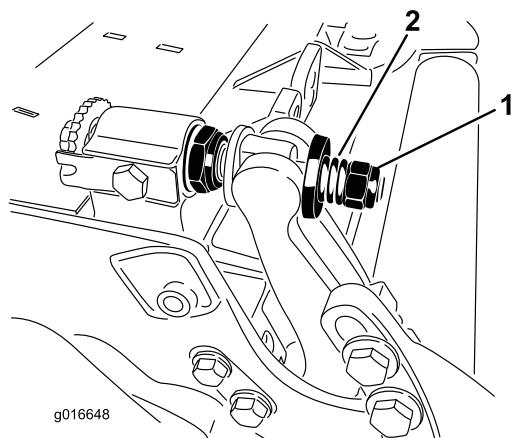

Figure 29
- Tighten spring tension nut until spring is collapsed, then back off 1/2 turn (Figure 29).
10. Tighten the nut on each bedbar adjuster assembly until the compression spring is fully compressed, then loosen nut 1/2 turn (Figure 29).